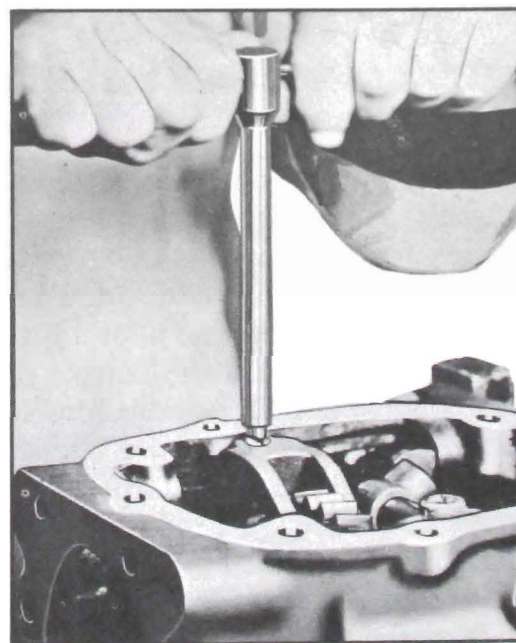

Figure 4-19—Removing Set Screw with Remover J-2895
3. Remove shifter yoke set screws using Remover J-2895 (shown in fig. 4-19).